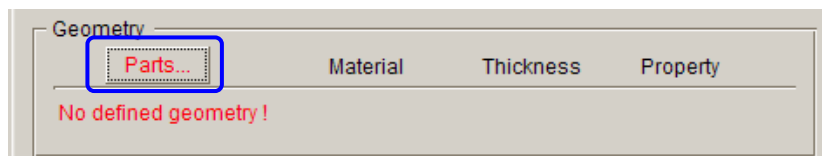

Figure 2.10 Define blank
2. Then, click **Parts...** button from **Geometry** field in blank definition interface. See Figure 2.10.